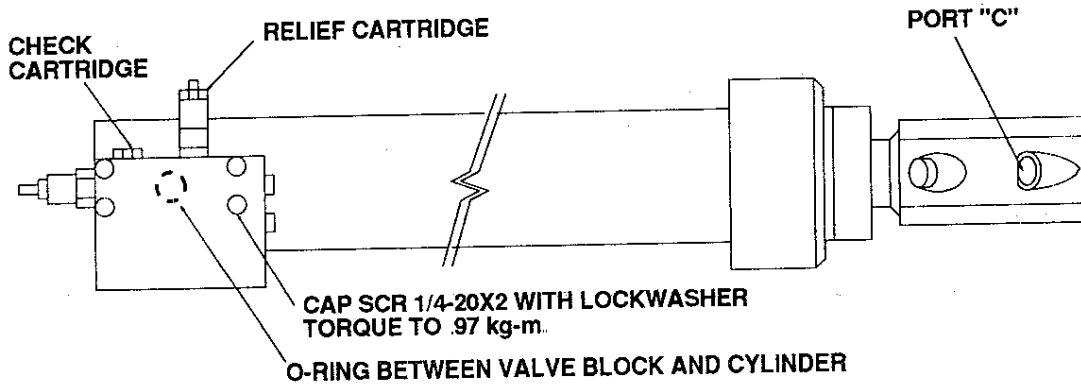

Figure G1-11. EXTENSION CYLINDER REFERENCE
1. Reinstall relief/check valve at base end of cylinder. See Figure G1-11.
5. Install hose connecting rod end ports "B" and "C". See Figures G1-11 and G1-13.
10. With cylinder still extended, disconnect hose at port "C" of rod end. Hold pressure to check piston seal leakage. See Figure G1-11.
4. Install hose connecting rod end ports "B" and "C". See Figures G1-11 and G1-13.
9. With cylinder still extended, disconnect hose at port "C" of rod end. Hold pressure to check piston seal leakage. See Figure G1-11.